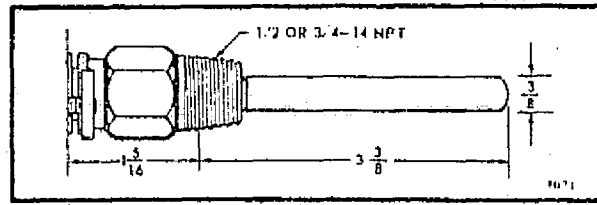

FIG. 4—BOILER FITTING AND BULB DIMENSIONS FOR L4006C, L4007D, AND L6006B.
**BOILER FITTING AND BULB DIMENSIONS:** See Fig. 4.